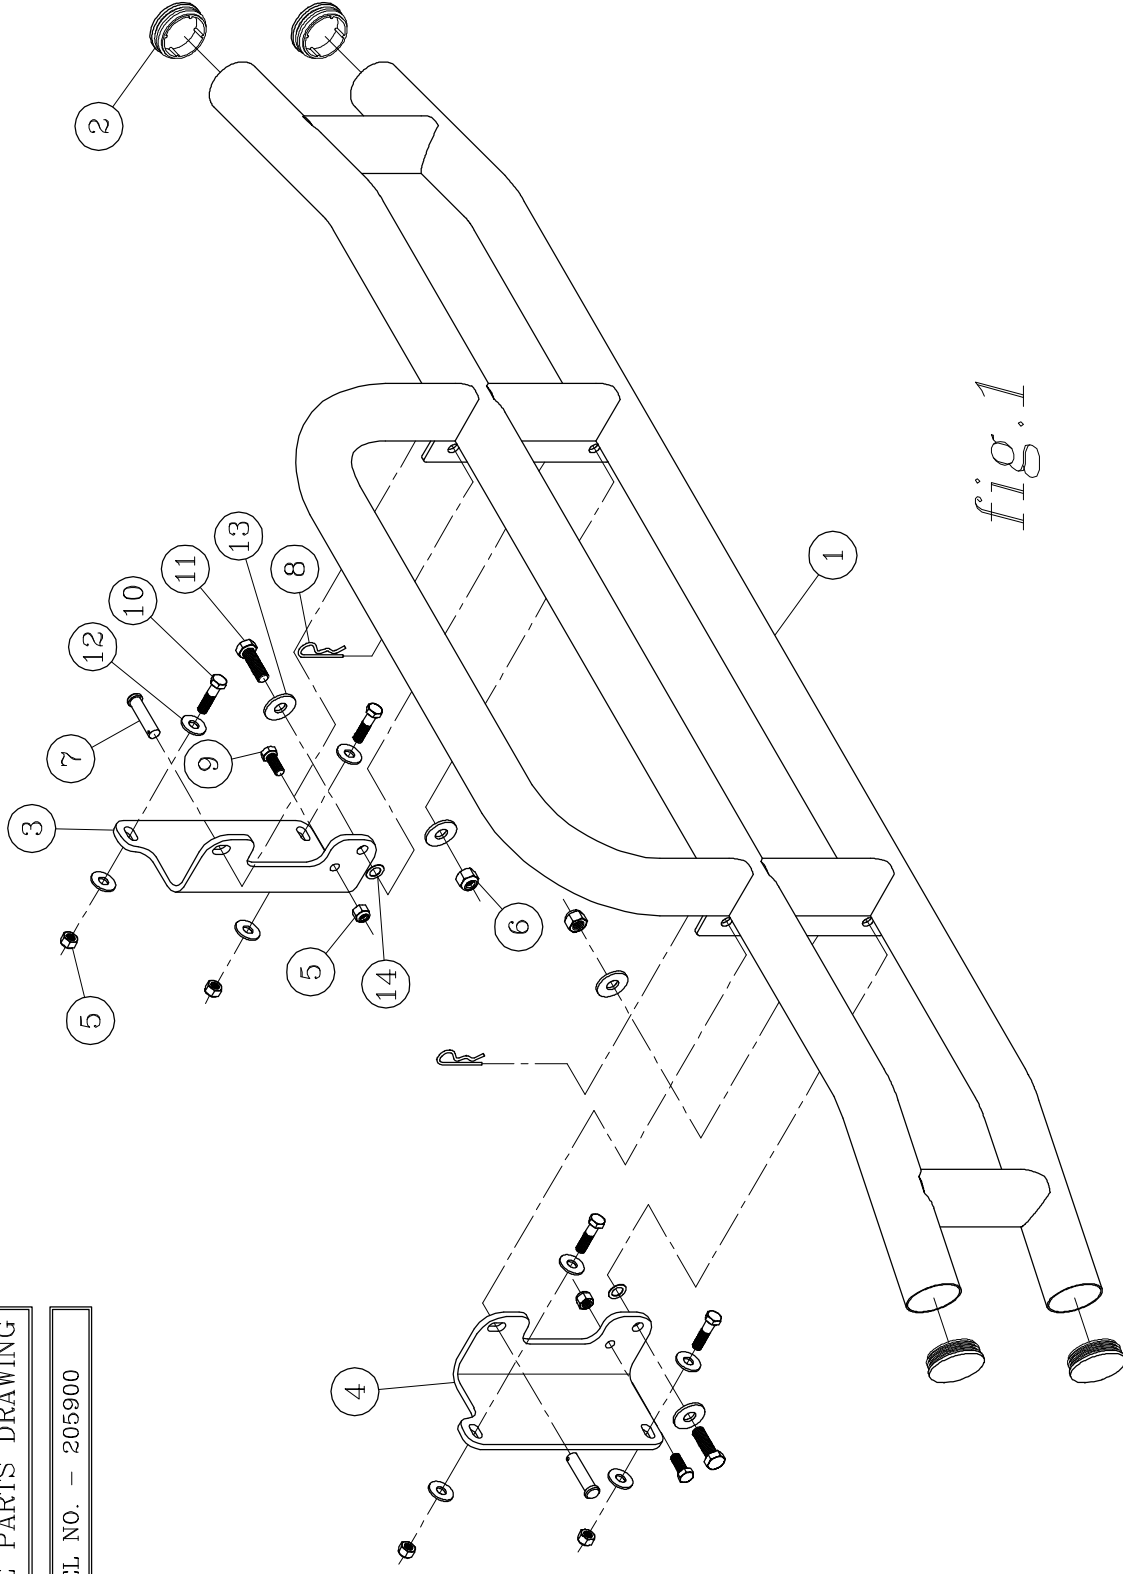

fig. 1
2. INSTALL THE MOUNTING BRACKETS (ITEMS #3 & #4), USING THE 1/2-13 X 2" HEX BOLTS (ITEM #10), 1/2" FLAT WASHERS (ITEM #12), AND 1/2-13 NYLOCK NUTS (ITEM #5) AS SHOWN IN FIG. 1. HAND TIGHTEN ONLY AT THIS TIME, TO BE ADJUSTED LATER.